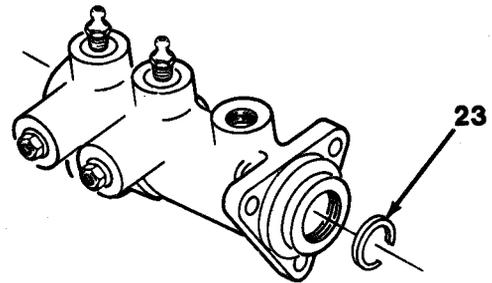

Figure 13-6
15. Remove retaining ring (23) from flange end of housing (38, Figure 13-6).